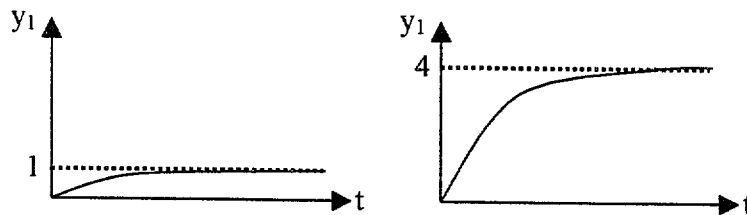

Figure 4. Step responses for multivariable system.
- b) i) With both loops open,  $m_2$  is kept constant and a unit step in  $m_1$  is introduced and the response in  $y_1$  is recorded. The response is given to the left in Figure 4.
ii) With  $y_2$  assumed perfectly controlled using  $m_2$ , a unit step in  $m_1$  is introduced and the response in  $y_1$  is recorded. The response is given to the right in Figure 4.
Calculate the Relative Gain Array for the process from the step responses in Figure 4. [5]